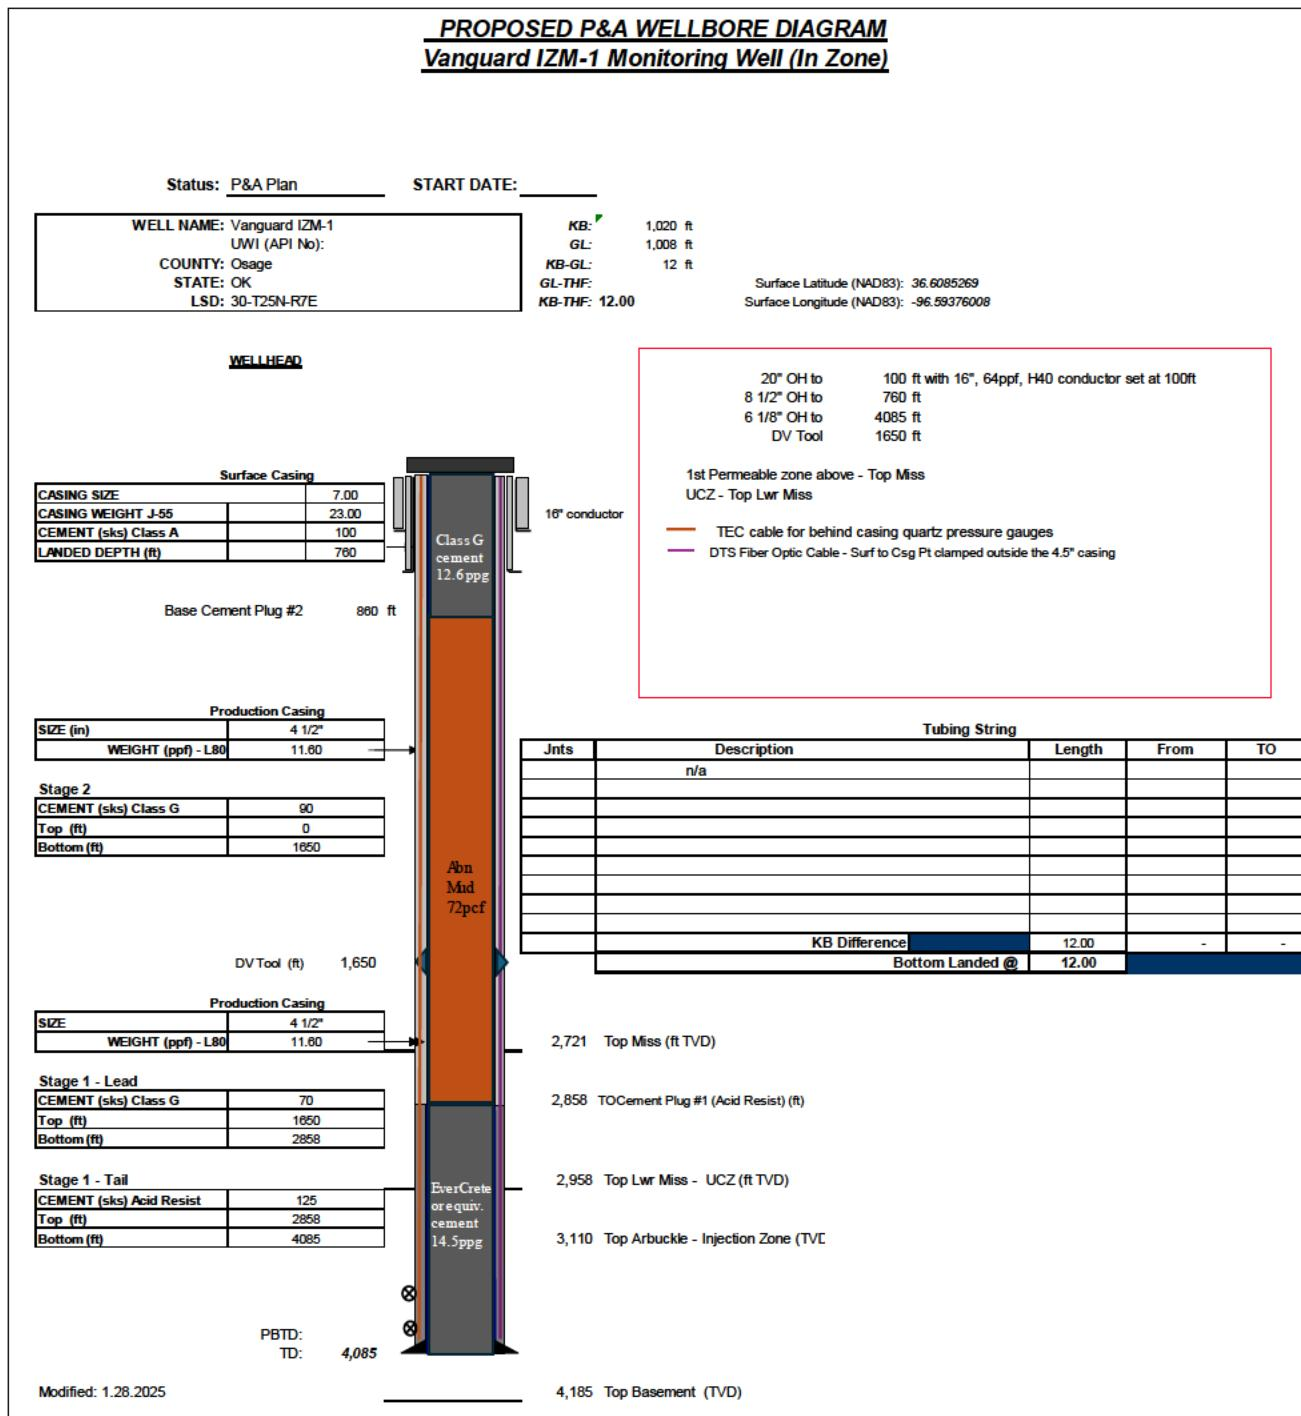

Figure 9-2—Diagram of the proposed abandonment design for Vanguard IZM-1
**Table 9-4** contains individual cement plug details for the P&A of Vanguard IZM-1 well. **Figure 9-2** is the proposed abandonment configuration diagram for Vanguard IZM-1. The six remaining in-zone monitoring wells follow a similar P&A scheme; their specific plug details and their abandonment diagrams are in **Attachment 1 – Additional P&A Wellbore Diagrams**. **Table 9-5** contains the individual cement plug details for the P&A of Vanguard IZM-1 through Vanguard IZM-7.